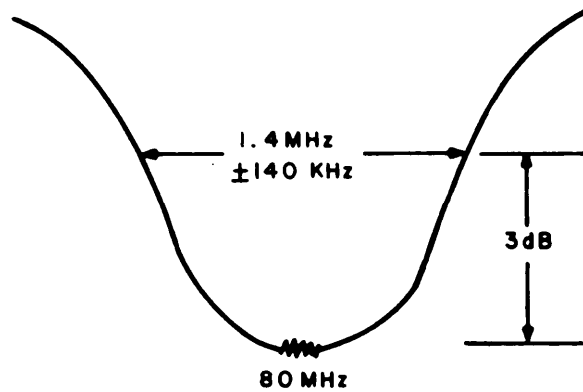

Figure 4-9. Typical, 80-250 MHz Tuner, Alignment Bandpass Response
- (2) Set the sweep generator's frequency to 80 MHz.
- (3) Rotate the Inductuner Shaft fully CCW and adjust C16 for a maximum amplitude response centered about the marker as shown in Figure 4-9.